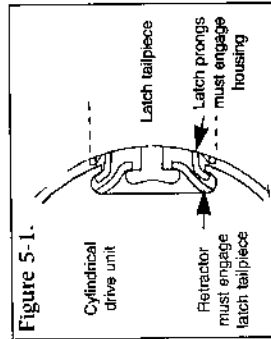

Figure 5-1.
4. Align the latch and the cylindrical drive unit by depressing the latch bolt slightly. Make sure that the latch and cylindrical drive unit engage each other as shown in Figure 5-1.